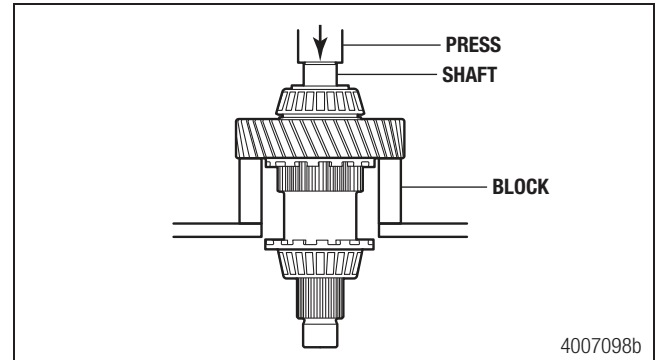

Figure 5.24
- Prepare the shaft for bearing and gear removal. Install the front output shaft into a press with the rear of the output shaft facing UP. Support the shaft correctly. Figure 5.24.